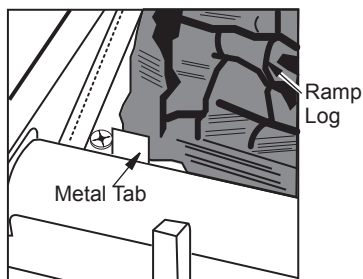
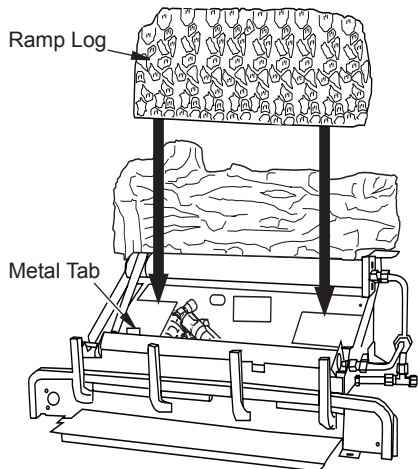

Figure 24 - Installing Log Set
Figure 29 - Installing Ramp Log
2. The log must sit flat on the black sheet metal and behind the left metal tab as shown in Figure 24.
- Place ramp log in center of base assembly as shown in Figure 29. Make sure the side marked BOTTOM is setting down on the base. The log will sit behind the metal base as shown in Figure 24, page 19.